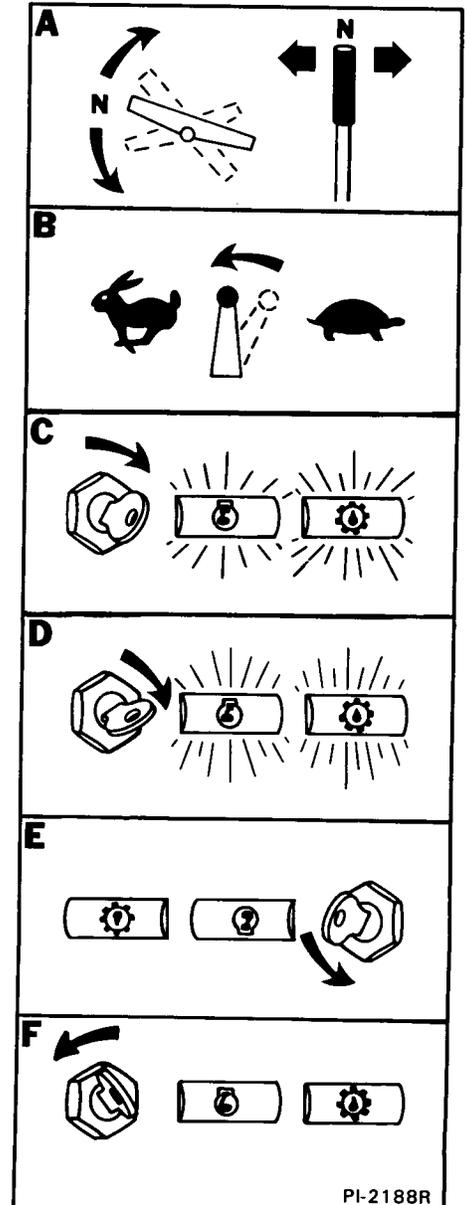

Fig. 23 Starting Procedure
2. Make sure that the controls are in the neutral "CENTER" position (Fig. 23, Item A).
3. Put the throttle at 1/2 throttle position (Fig. 23, Item B) and push the fuel shut off knob in.
4. Turn the key switch to the "ON" position. Check that the engine and the transmission warning lights are illuminated (Fig. 23, Item C).
NOTE: It may be necessary to use the preheat for 30 seconds (Fig. 23, Item F).
5. Turn the key switch to "START" and hold it until the engine starts (Fig. 23, Item D). The engine must start within fifteen seconds. If the engine does not start, preheat again. DO NOT run the starter more than fifteen seconds. Let the starter cool for one minute before engaging the starter again.
When the engine has started, the warning light must go off (Fig. 23, Item E). Stop the engine if the warning lights do not go off. Check for the cause of the problem (See the "Troubleshooting" section of this manual).
2. Turn the key to the left to "PRE-HEAT" position and hold for one minute (Fig. 23, Item F).
3. Turn the key to "START" and engage the starter (Fig. 23, Item D). The engine must start within fifteen seconds. If the engine does not start, repeat Step 2. **DO NOT** run the starter more than fifteen seconds. Let the starter cool for one minute before engaging the starter again.